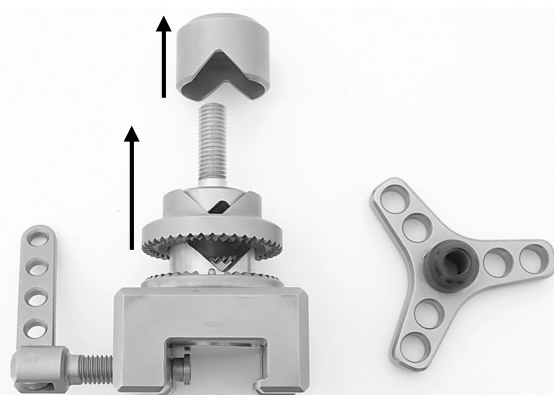

Fig. 17
First pull the upper part of the clamping jaw (2) from the thread of the base (4), then remove the lower part of the clamping jaw (3) (Fig. 17).